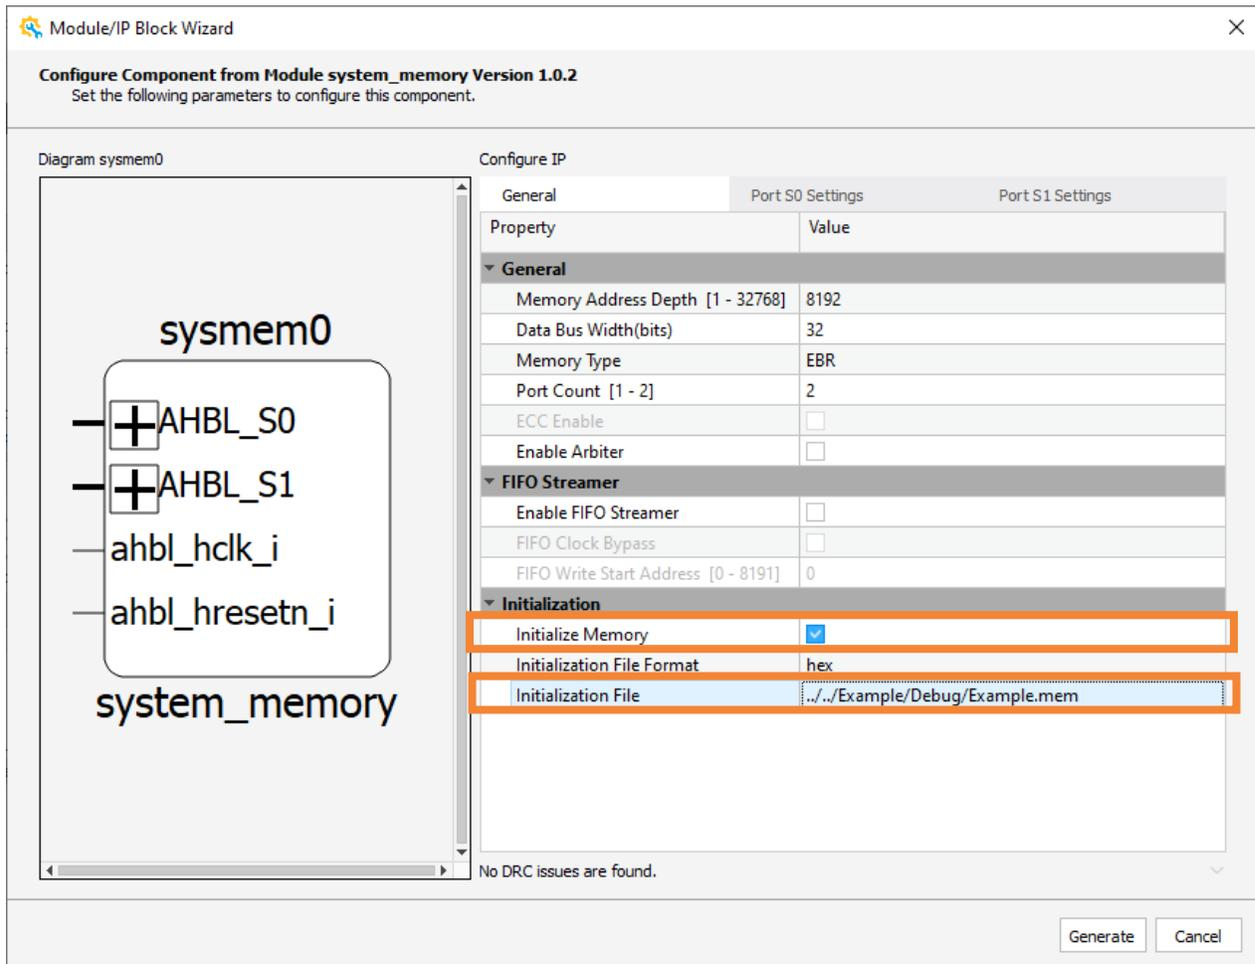

Figure 3.28. Configure Module System Memory
- Enable the checkbox for **Initialize Memory** for *system\_memory* IP module from the **Initialization** area of the **General** tab, and set **Initialization File** generated from the corresponding C/C++ project (Figure 3.28).